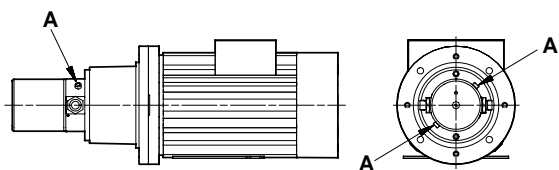

Fig. 4 Vent plugs
1. **Venting:** Before starting the pump, slacken the vent plugs "A", see fig. 4. When the water starts running out of the holes, the pump has been filled with water. Retighten the plugs.
3. **Water supply:** When the suction pipe has been connected to the water supply or tank, start the pump with an open discharge port (O).